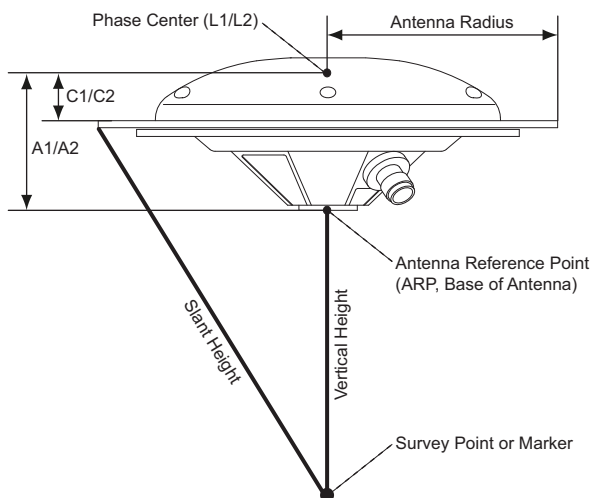

Figure 6-12. Determining Antenna Parameters
Each antenna type has unique phase center parameters obtained through factory calibration. These parameters are not viewable nor editable, but a custom antenna can be added to the Topcon Link list of antennas. You will need the measurements (calibrations) shown in Figure 6-12 to properly add a custom antenna and ensure correct coordinate computations.
1. Measure or record the antenna's offset parameters as shown in Figure 6-12.